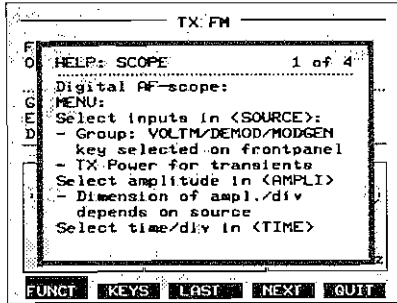

Fig. 2.14: If a single information page is not enough, like here, repeatedly tap **NEXT** to scroll through the following pages.
- 2) Tap the **UNIT/SELECT** key. This calls up the stored information pages (Fig. 2.14). Scroll up and down with **NEXT** and **LAST**.